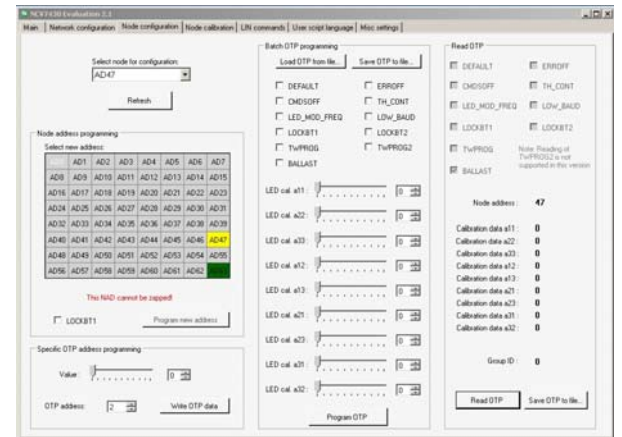

Figure 13. The BALLAST Box is Checked
9. In the middle column click the box for Ballast. Click the Program OTP button. Click the Read OTP button. The BALLAST box should now be checked (see Figure 13).